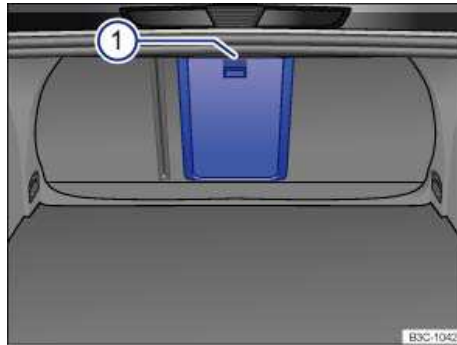

Fig. 98 In luggage compartment: Release lever with marking 1.
- Fold the pass-through cover back until it engages securely. The red marking on the luggage compartment side ⇒ fig. 98 \(1\) should not be visible.